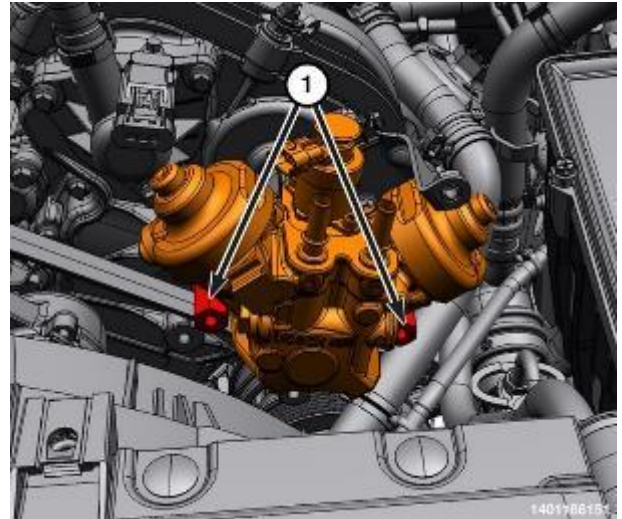

Figure 188 – HPFP Upper Bolts
30. Remove the upper bolts (1) from the high-pressure pump (2) (Figure 188). Using Tool, High Pressure Pump Installation VM.10345 Install the studs in the upper locations.
42. **Install the high-pressure fuel injection pump upper bolts (Figure 188).**